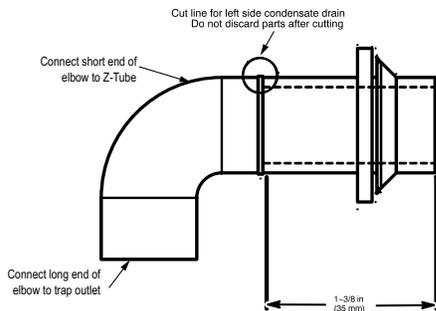

Fig. 17 – Modify Rubber Drain Elbow
3. The Z-pipe is connected to the condensate trap and the outside of the furnace by modifying the formed rubber drain elbow as shown in Fig. 17.
mm) away from the formed grommet. See Fig. 17. **DO NOT DISCARD THE FORMED GROMMET OR THE RUBBER ELBOW.** Both of these pieces will be used.
TIP FROM CONTRACTORS: When installing the furnace horizontally, use the entire drain elbow (that is, do NOT cut as shown in Fig. 17 to connect the trap to the drain line. This helps to prevent bumps and shocks to the drain line from damaging the furnace drain trap. Avoid misalignment of the drain pipe which may cause kinks in the elbow.